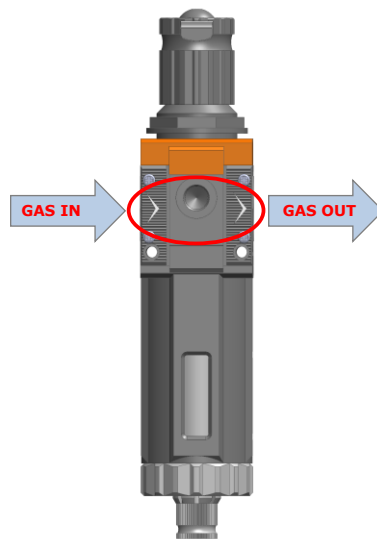

Figure 6. Input and Output gas ports. See symbol on the rear of Pressure Gauge.
1. Install the **pressure Gauge for the CO2** line between the CO2 tank and CO2-UNIT-BL. Follow the arrow on the rear of the Pressure Gauge for the correct Gas In-Out (see Figure 6).